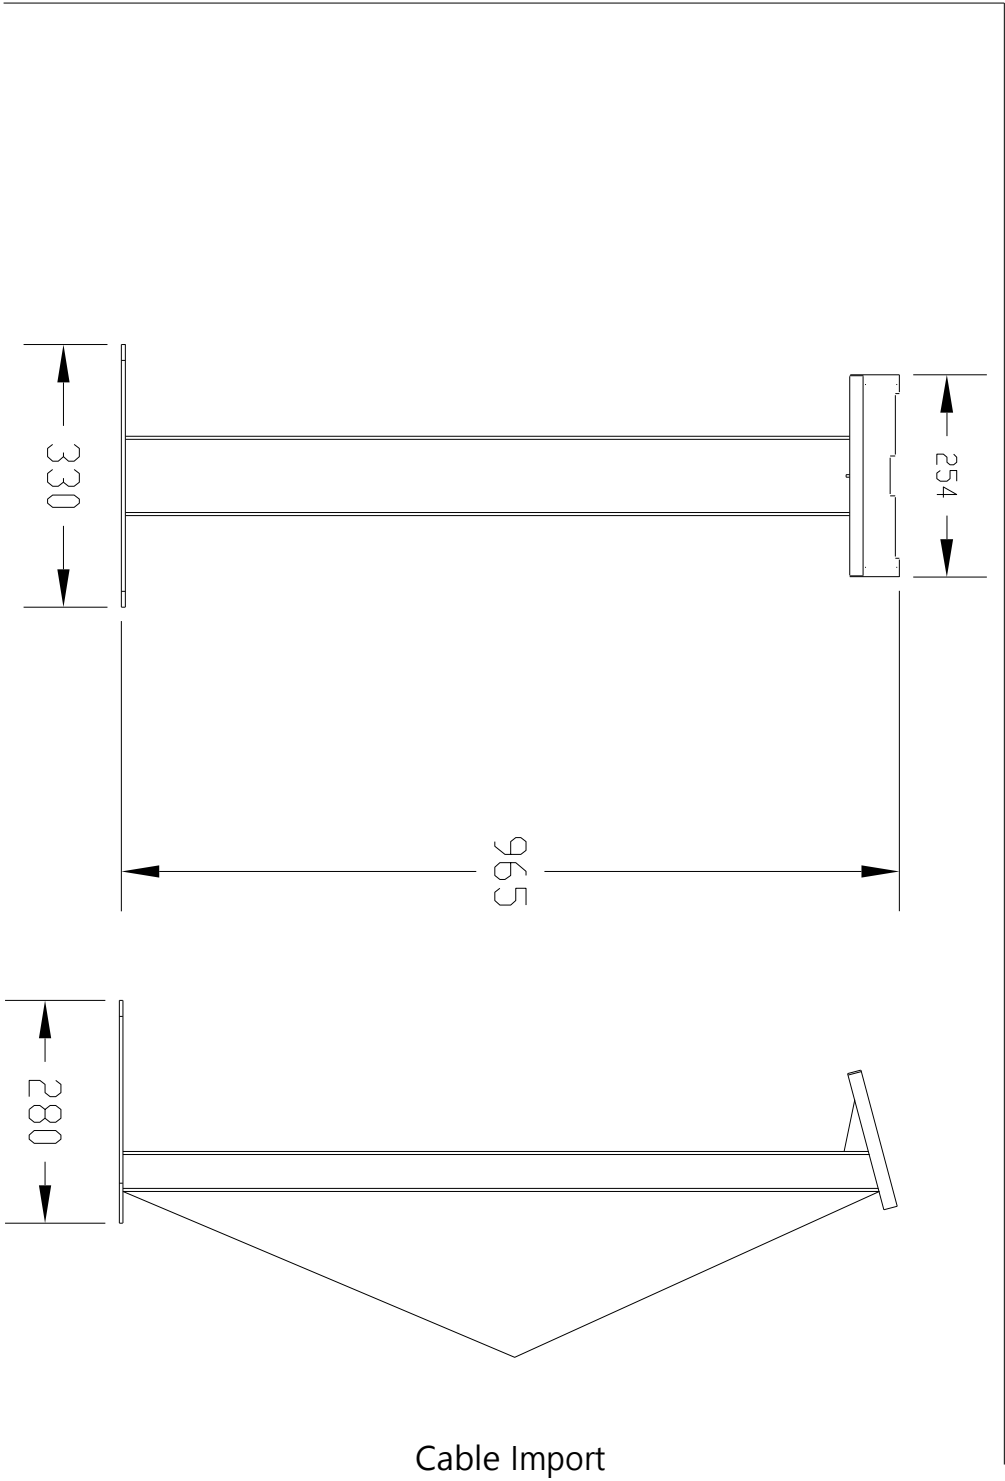

Figure 5-3 Console Size
- Operator Console - Figure 5-3.